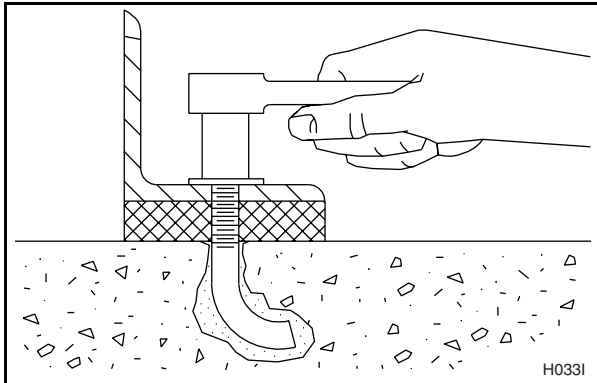

Figure 32
12. After the grout is completely dry, tighten the locknuts by even increments—one after the other—until all are tightened evenly and the machine is fastened securely to the floor. See Figure 32.